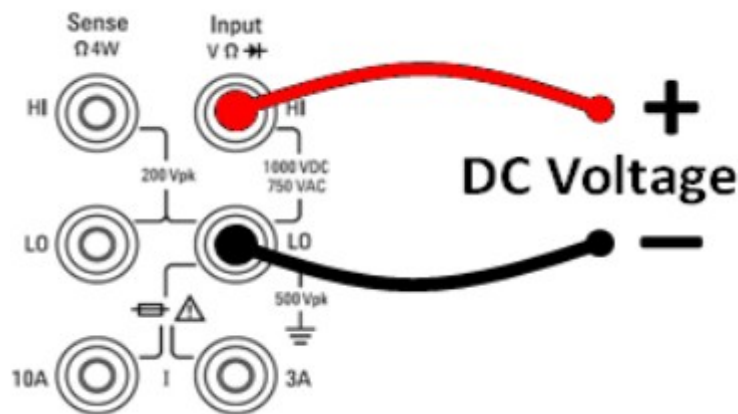

Figure 3. Probe setup for voltage measurement
To show and add the desired measurement, press **[Meas]** button in the Measure section (yellow dotted section). Then, on the bottom of the screen, five menus will pop up: Source, Type, Add measurement, Settings, and Clear Meas. Press the second button in the lower bottom keypad (red dotted rectangle in Figure 3). Then, the following menus will pop up.
To Autoscale the display, press **[Auto Scale]** button in the Run control (blue rectangle in Figure 3).
- In Measure section, click **[Meas]** button and then clear all measurements at the bottom of the screen by clicking **[Clear Meas]**, which is fifth button in red dotted rectangle as shown in Figure 3.